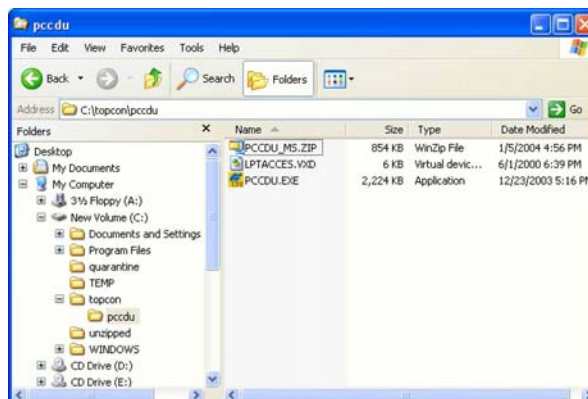

Figure 2-1. Extract Program and Create Shortcut
3. Extract the **PCCDU.EXE** and associated *.dll file to the **PC-CDU** folder (Figure 2-1).
4. Optionally, create a shortcut on the computer's desktop for quick access to **PC-CDU** (Figure 2-1).